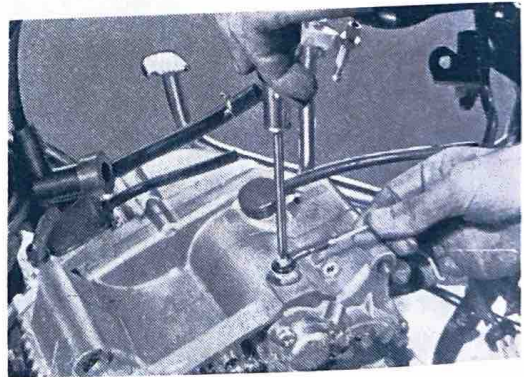

Fig. 3-1-18
17. Disconnect the cable from the neutral light switch. (Fig. 3-1-18)